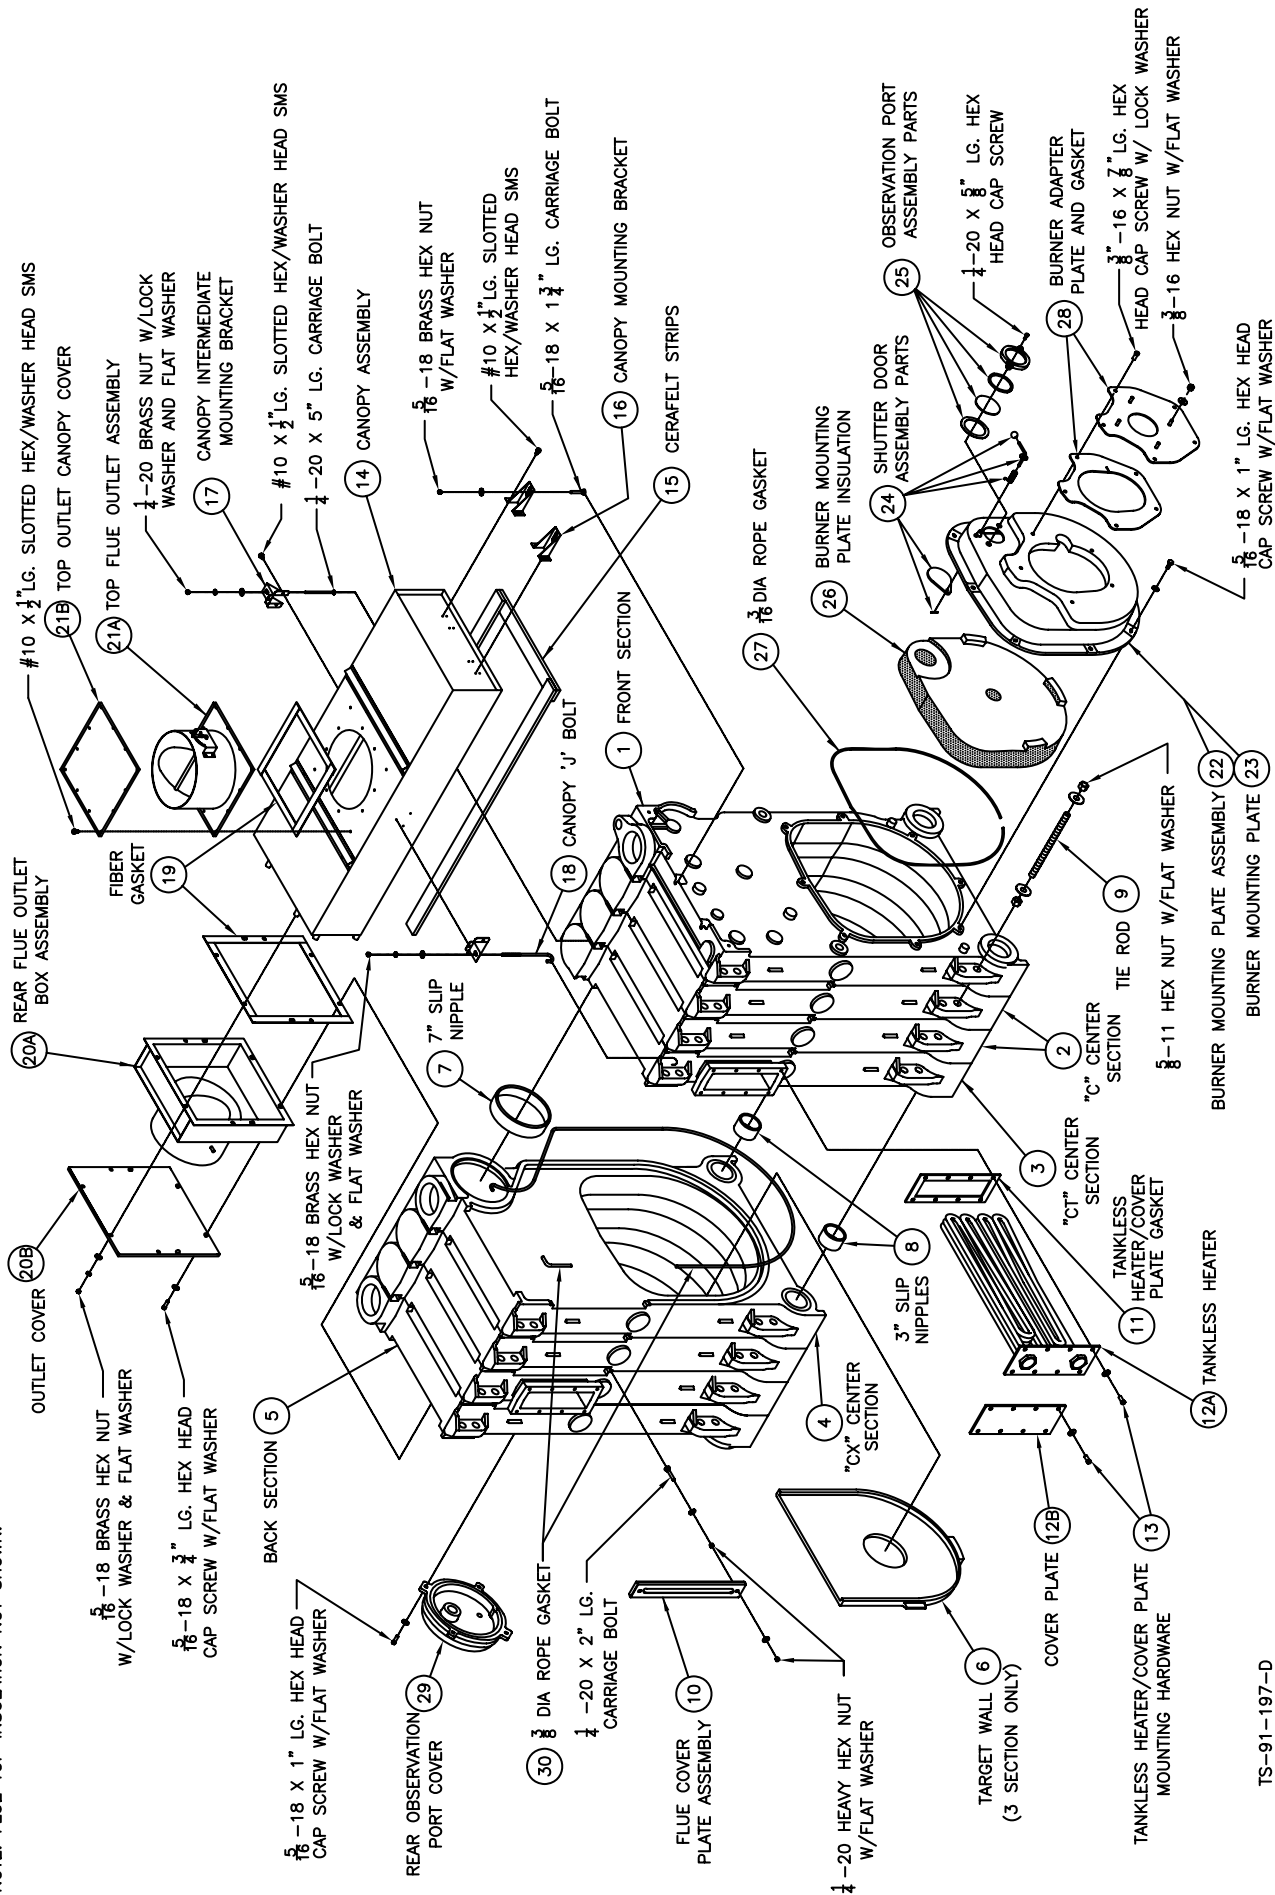

Figure 16: Bare Boiler Assembly
Refer to Figure 16.
F. BURNER MOUNTING PLATE - Refer to Figures 16 and 23.
3. Engage bottom slot on burner mounting plate with matching bolt in bottom tapping of front section. Align mounting holes and fasten the mounting plate to the boiler sections with seven (7) remaining 5/16" cap screws and washers. Fully tighten all bolts.